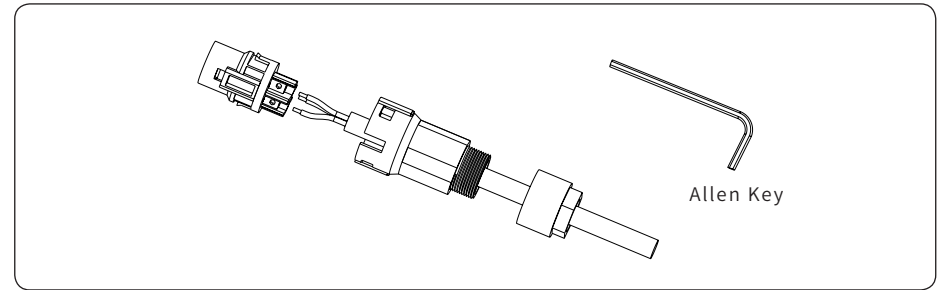

Figure 4-16
3) Insert the stripped end of each three wire into the appropriate hole of the terminal head (yellow green wire to PE port, red or brown wire to L port, and blue or black wire to the N port). Please try to pull out the cable to make sure it is well connected. As shown in Figure 4-16: